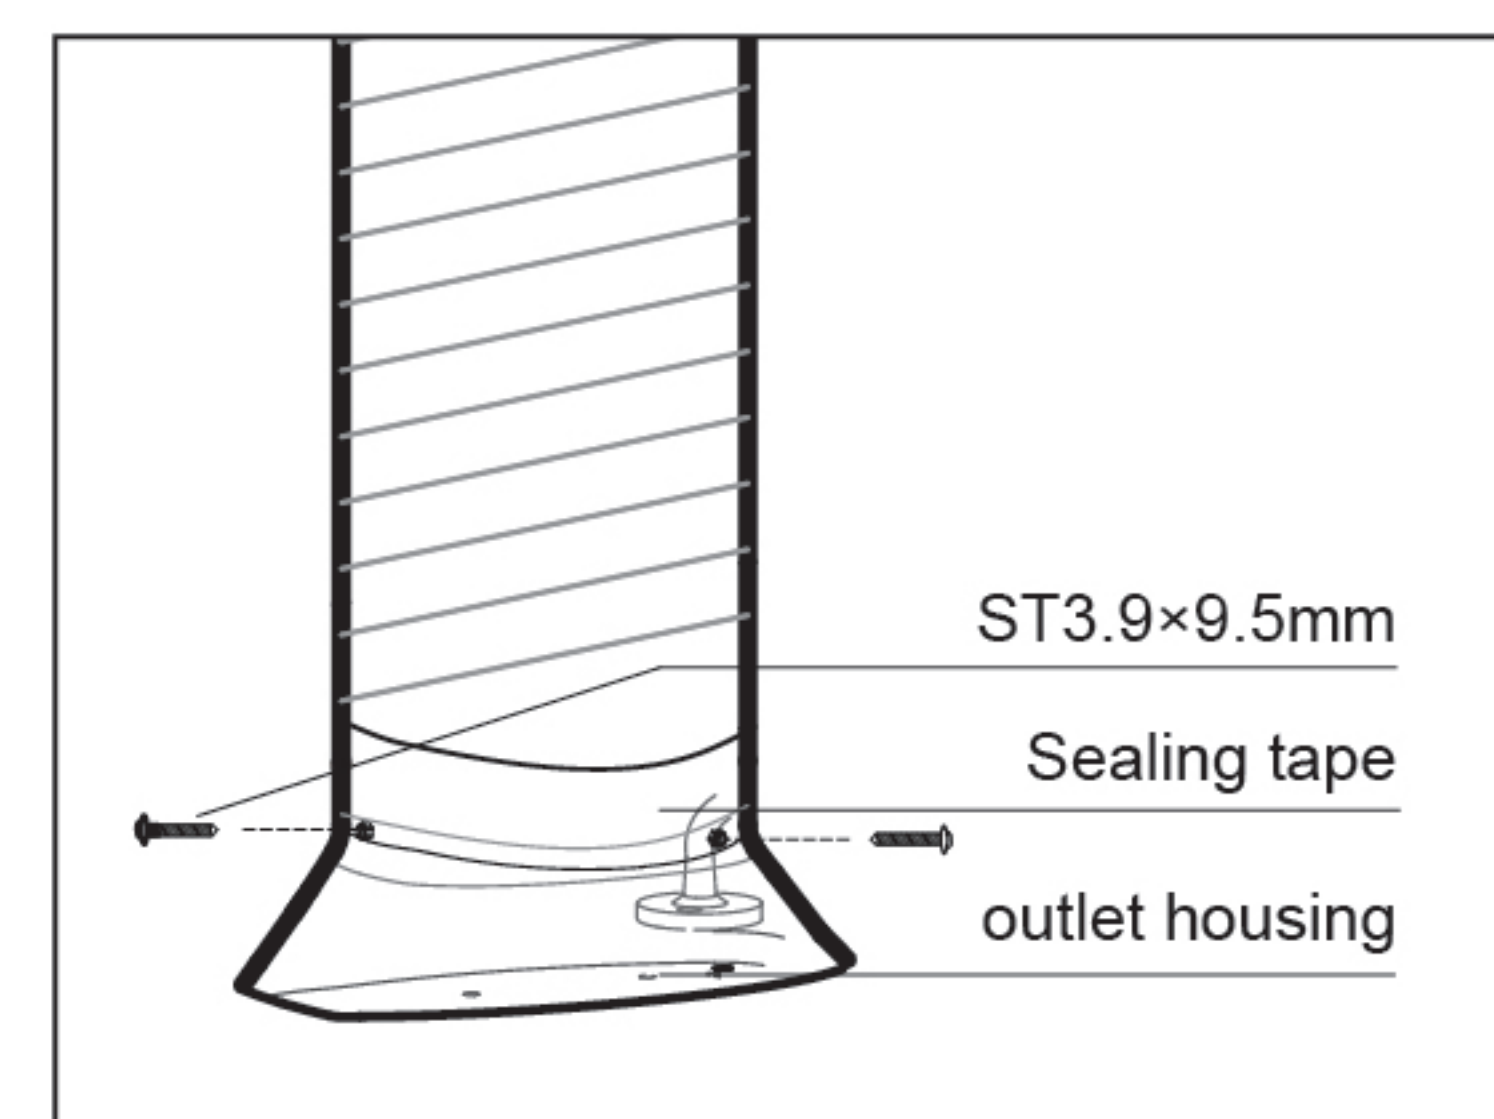

fig13
7. Connect the exhaust duct: cut off the redundant exhaust duct or connect the smoke tube according to the actual distance, put the smoke tube into the outlet housing connecting rings, then pre-fix the exhaust duct with two screws (ST3.9x9.5), and finally wrap it with foil tape for fixation and sealing; (fig13)